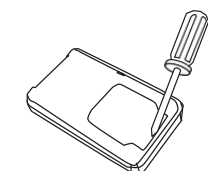

Fig. 2
3. Insert a flat screwdriver (Fig.2) where the hole is located and lever to remove the cover.